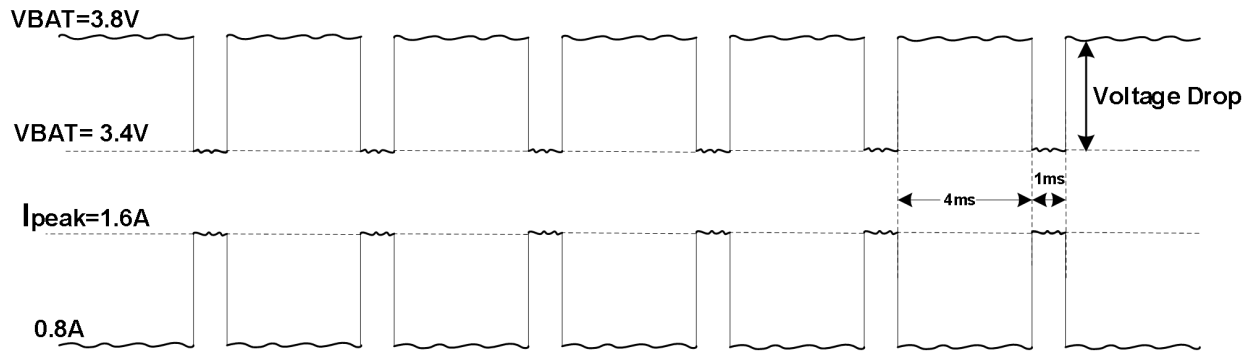

Figure 4: Power consumption at ENDC combination of B3 (20MHz) and N79 (100MHz)
3. The I_{peak} and voltage drop data in Table 6 and Figure 4 were tested using SIMCom EVB and connecting instrument at 3.8V power supply, the ENDC combination is B3(20MHz) and N79(100MHz), subcarrier spacing is 30KHz.